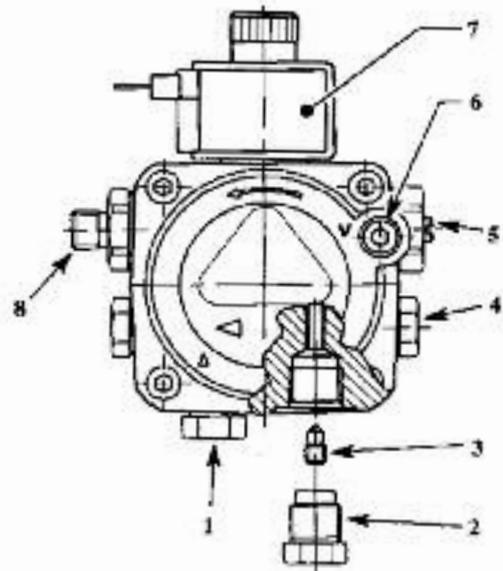

Fig. 6 - RDB pump
3.3.6 Two pipe oil supplies (See Fig. 6)
- 1 The fuel pump is supplied for use with a single pipe fuel supply system. For use on a two pipe system, it is necessary to fit the By-pass screw (see Fig. 6) into the tapping in the return port.